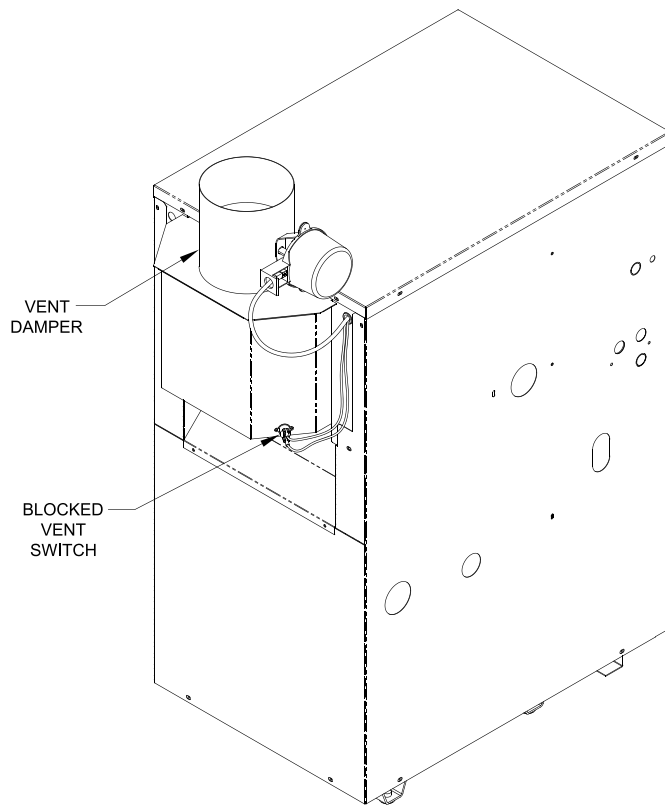

Figure 6: Vent Damper Installation
2. Mount the vent damper assembly onto the canopy/diverter. (Refer to Figure 6 and to instructions packed with the vent damper for specific instructions). Do not modify either the draft hood or vent damper.